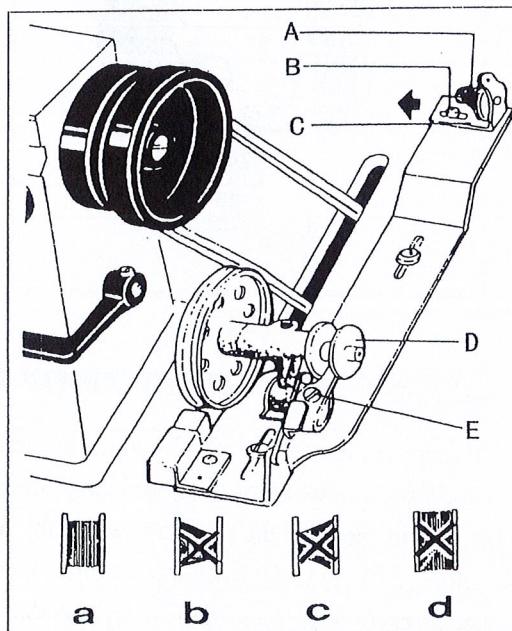

Fig. 8
## 9. WINDING ADJUSTMENT ( Fig.8 )
2) When the wound thread layer does not present a cylindrical shape as shown in Fig.8 ( a ), loosen Set Screw ( B ) of bobbin winder tension bracket and slide Bracket ( C ) leftward or rightward. If thread is wound as shown in Fig.8 ( b ), move the bracket rightward, but if thread is wound as shown in Fig.8 ( c ), move the bracket leftward.